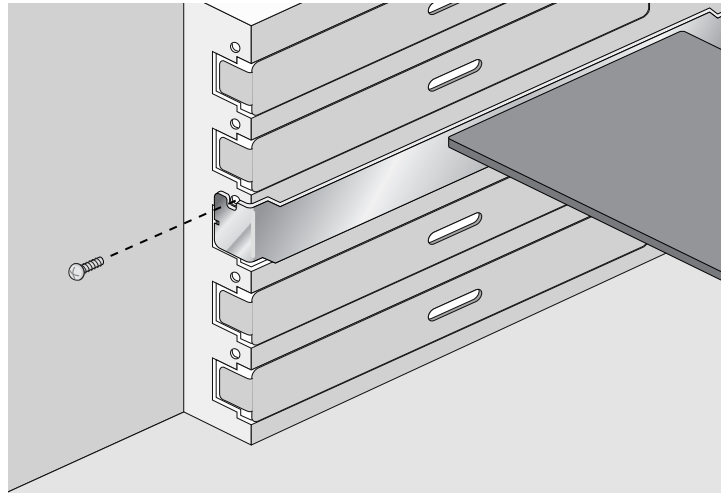

Figure 4. Securing the Adapter Card
6. Secure the network adapter card to the chassis with a Phillips-head screw (not provided) as shown in Figure 4.